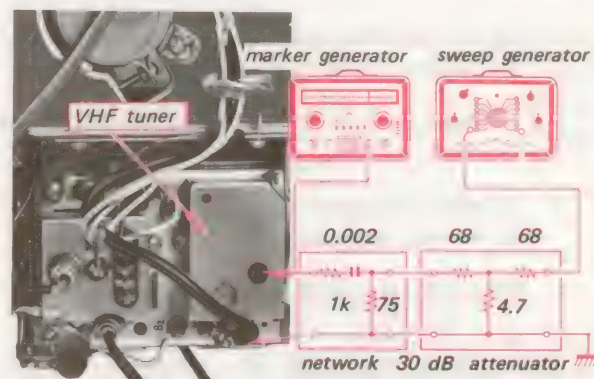

Fig. 4-13. Sweep/marker connections for VIF adjustment
6. Connect a sweep generator to the test point of the tuner through an attenuator and the network as shown in Fig. 4-13.
8. Loosely couple the output of the marker generator to the input of the VHF tuner and network as shown in Fig. 4-13.